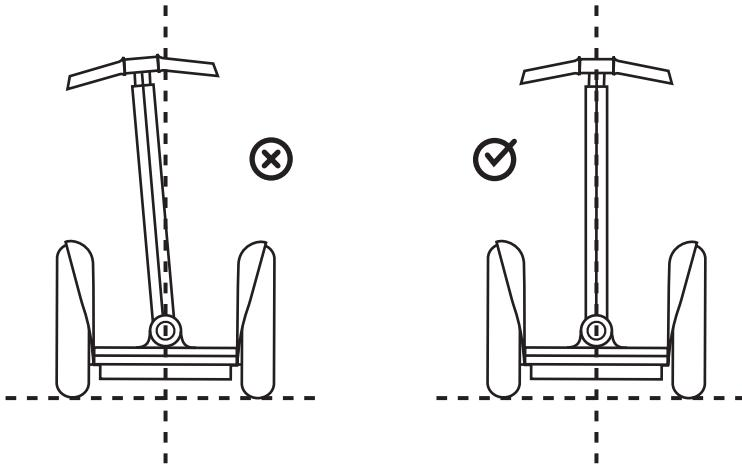

**Figure 4.** Ensure the Wedge Clamp is installed curved side down
7. If the Wedge Clamps are not installed, install each Wedge Clamp, curved side facing down, on either side of the LeanSteer Frame base and loosely thread in the fastener. See Figure 4.